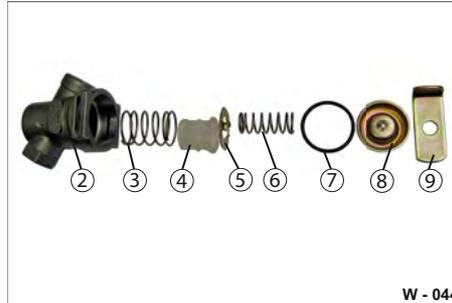

Fig. 48 Line filter disassembled
- Press the cap (Fig. 48/8) downwards with a screwdriver and pull out the angle (Fig. 48/9).
- Remove both springs (Fig. 48/3 & Fig. 48/6), the seal (Fig. 48/7), the intermediate plate (Fig. 48/5) and the filter (Fig. 48/4).
- Clean the filter housing (Fig. 48/2) with a clean, dry cloth.
- Clean the filter (Fig. 48/4).
- Check if the seal (Fig. 48/7) is present or damaged.
- ▶ Set the small springs (Fig. 48/6) on the latches of the intermediate plate.
- ▶ Set the cover (Fig. 48/8) on top.